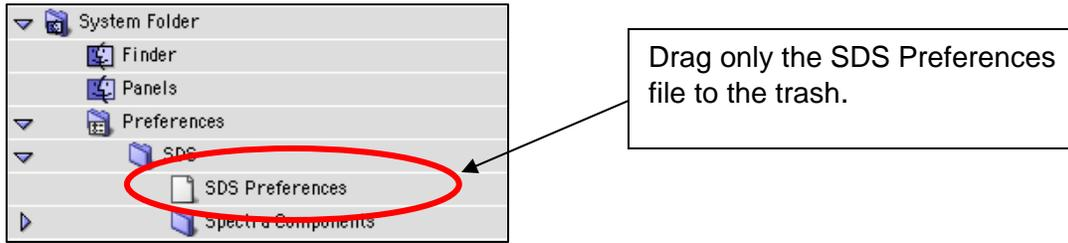

Figure 5. Location of the SDS Preferences file
- a. Go to the SDS Preferences file at **Hard Drive > System Folder > Preferences > SDS > SDS Preferences** (Figure 5).